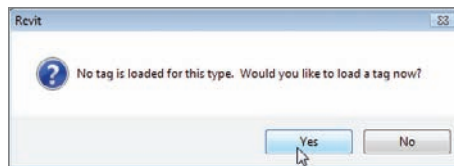

FIGURE 11.64 When you try to tag an item without a specific tag type loaded, this dialog prompts you to load the tag.
5. Many times, you will not have a tag loaded for this specific type of item. When that situation occurs, you will get the message shown in Figure 11.64. Click Yes to load the tag.